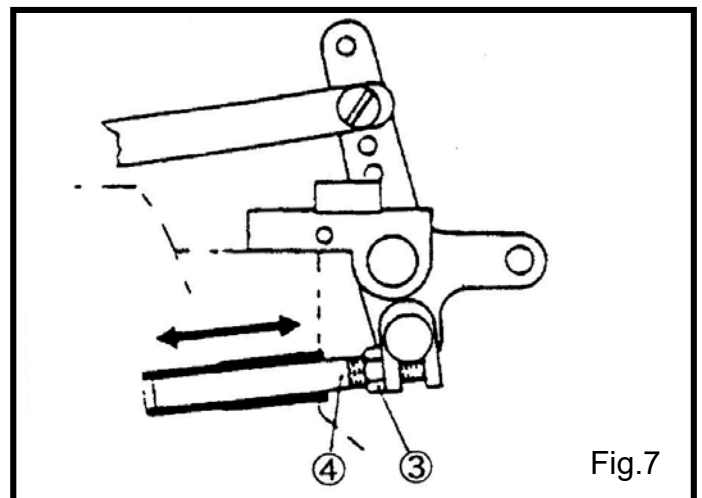

Fig.7
1. 放鬆螺母③。(Fig.7)
2. 移動抬壓腳停止插銷④或再調整外面間隙。
1. Loosen the lock nut ③. (Fig.7)
2. Move the presser foot lifter stop plunger ④ in or out to adjust the clearance.